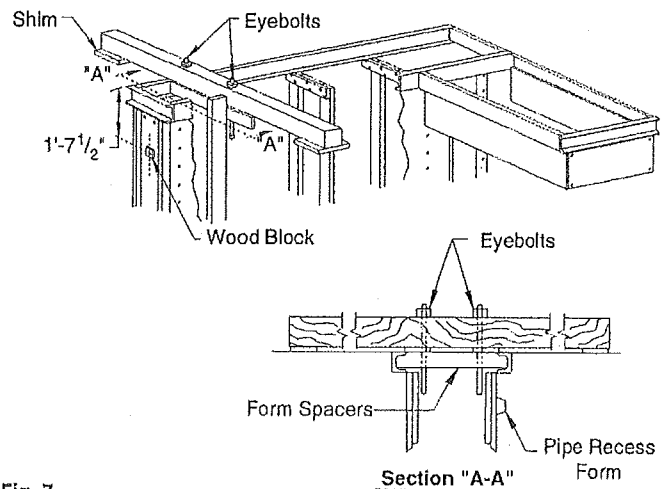

Fig. 7
- Bolt control box frame to the front frame with four (4) $\frac{3}{8}$ " x $1\frac{1}{4}$ " HHCS, lock washers and nuts. Tie the ratchet shaft assembly to the bottom of the control box frame. Build concrete forms around control box holding 18" depth, Figs. 2, section "C-C" & Fig. 7.